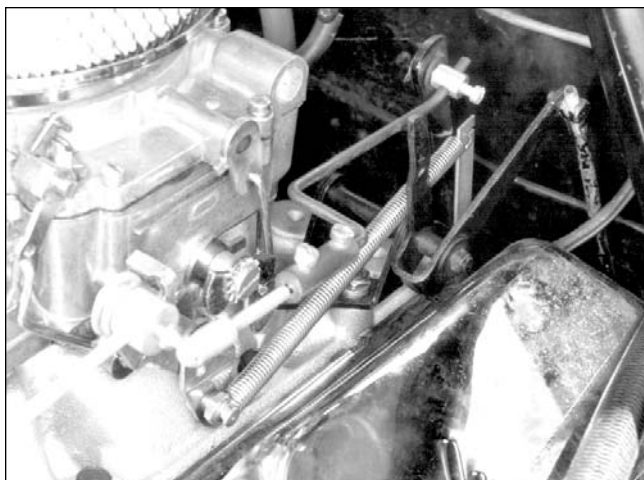

Figure 1 - Early Mustang Throttle Rod
- **ACCESSORIES & INSTALLATION ITEMS:** Major recommendations are listed below. See our catalog for details. **To order a catalog, call (800) FUN-TEAM**, or visit www.edelbrock.com.
- **THROTTLE & ACCESSORY BRACKETS:** The throttle and kickdown bracket on some vehicles may require modification to fit. On vehicles using throttle rods, such as early Mustangs, it may be necessary to shorten the throttle rod approximately 4", and use Edelbrock Throttle Rod Extension Kit #8010 to achieve proper throttle and kickdown operation at the rear carburetor (**See Figure 1**). Use progressive linkage kit #7094 to connect the carburetors together (See "Carburetor Recommendations").